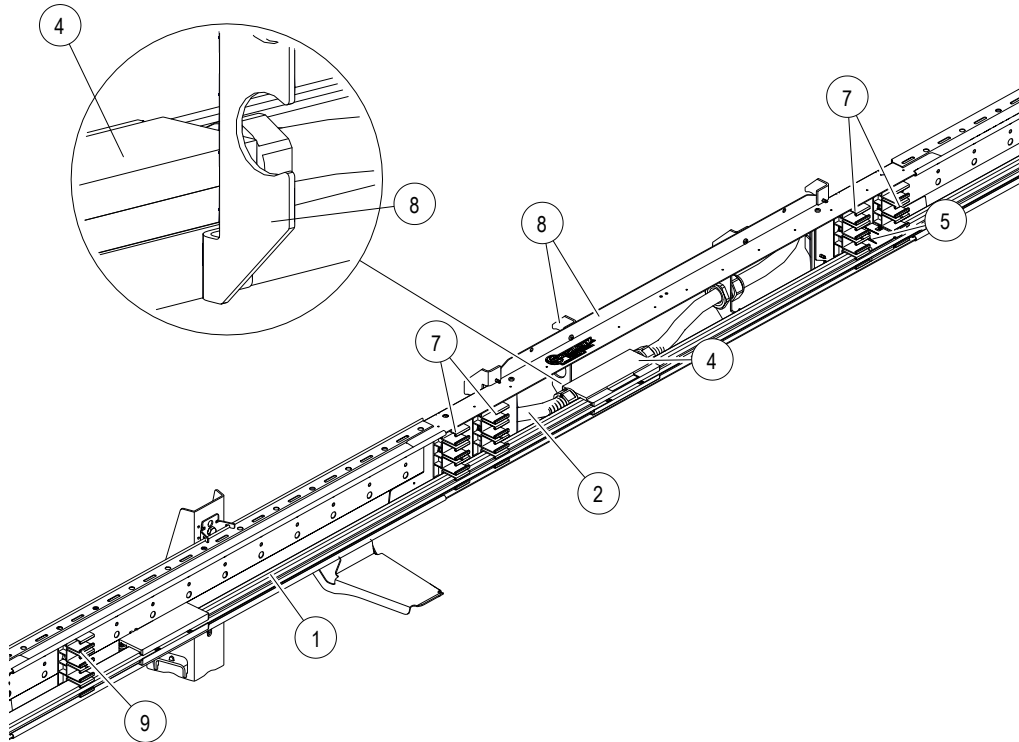

Fig. 41: Install conductor rail (1) on ProShell support profile
4. Hang the conductor rails with the preassembled line feed and anchor point (1) on the hanger clamps (7) on the right and left of the fastening frame (8). Start with the lower-most conductor rail pole and observe the PE position (Conductix-Wampfler recommends attaching the PE rail as the last or lower pole (viewed from above)) (see Fig. 41).
5. Lay the connecting cables (2) through the fastening frame to the rear (8) so that the line feed cap (4) fits into the cut-out of the fastening frame (8) and the preassembled anchor points (5) are positioned between their hanger clamps. In addition, hang the connected conductor rails on the additional hanger clamps (9) (see Fig. 41).